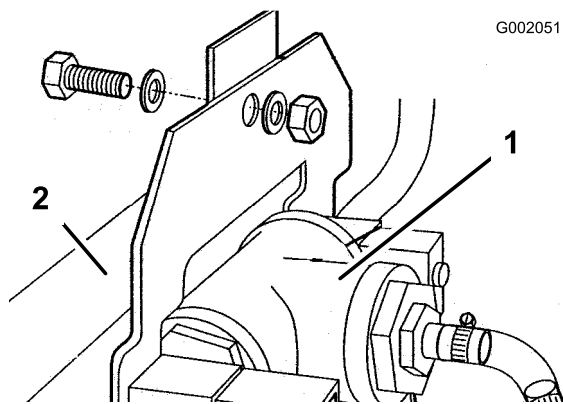

Figure 13
1. At the rear of the machine, mount the mixer assembly facing rearward to the bracket on the center boom assembly with a bolt (3/8 x 1 inch), flat washer, and locknut (Figure 13).